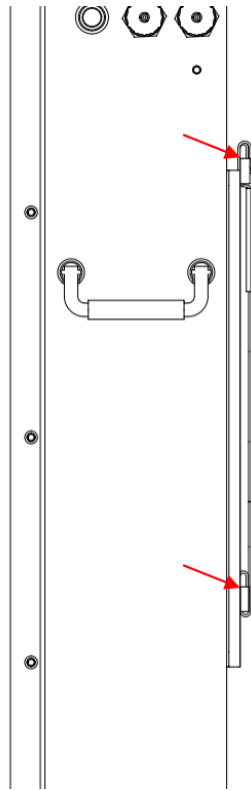

Figure 5-3
j) Carry the battery and holding it, Fix the battery on the plate after fixing the hanging plate to the wall. Ensure that the upper and lower positions of the battery backplane hook are accurately buckled on the hanging plate, as shown in Figure 5-3.